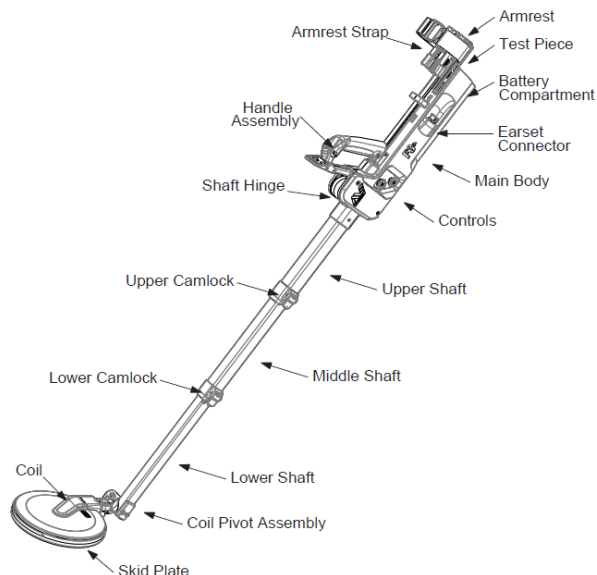

Figure 2: F3Ci Major Components
a. Confirm all parts and accessories are present and in good working order. Unpack the detector and prepare for use. Figure 2 identifies the major components of the F3Ci. Mechanical testing and inspection includes checking: